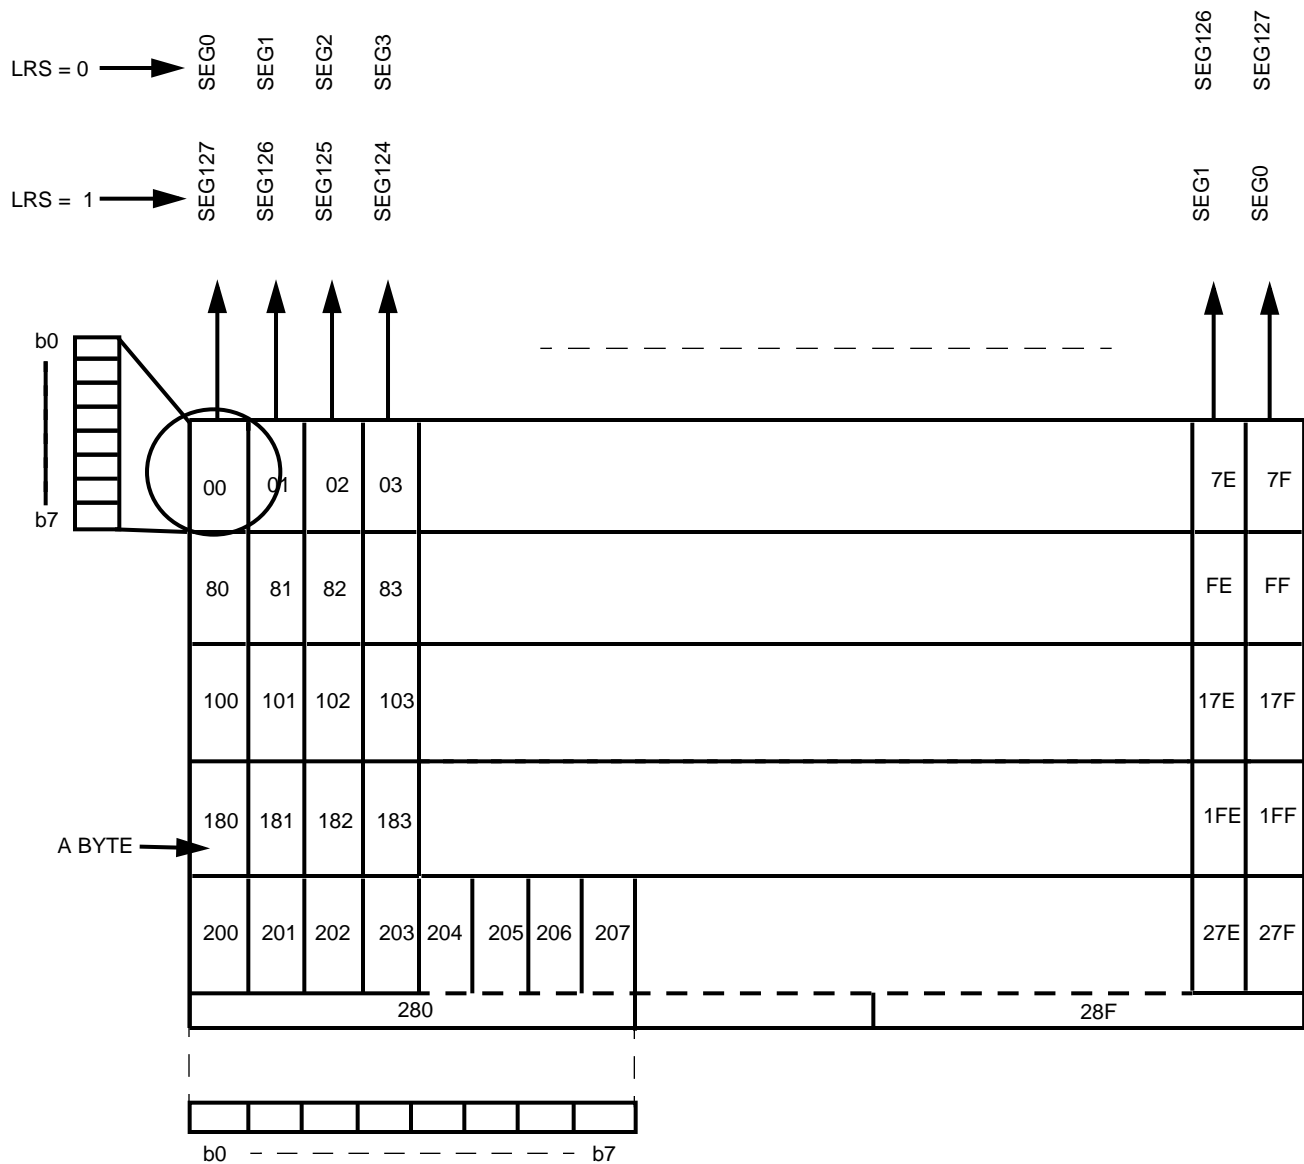

Figure 6. Display RAM Configuration
**DISPLAY RAM** - stores the display data. Each bit of the display RAM has one-to-one correspondence to a pixel of the LCD. The display RAM is in vertical byte oriented format as shown in Figure 6 and the way the display RAM is addressed depends on the multiplexing mode of the LCD (Figure 8). With reference to Figure 6, the display RAM also contains 16 bytes of memory which is in horizontal format (\$280-\$28F). The display RAM is addressed when backplane reaches 41.